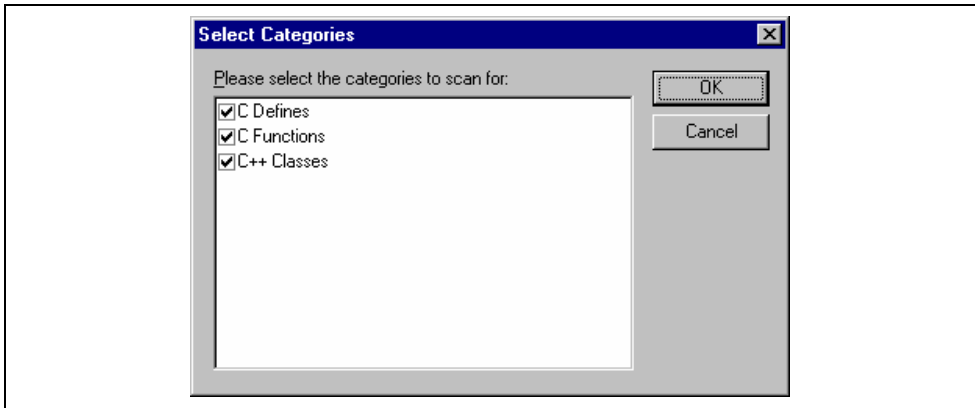

Figure 13.3: C++ Navigation select categories dialog
3. The dialog in figure 13.3 is displayed.